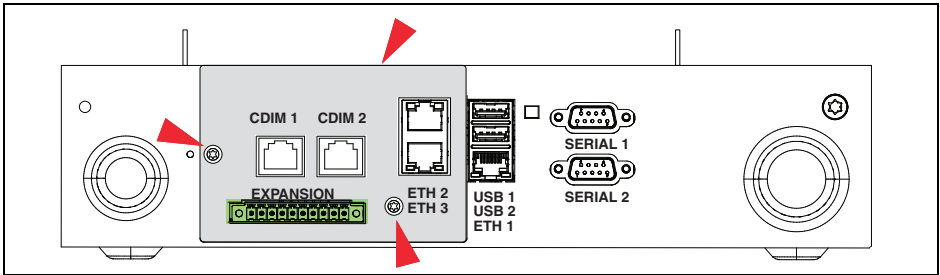

Figure 9. Remove Two T15 Screws Securing Comm Plate
4. Remove the two T15 #8 x 0.3125 screws securing the expansion comm port plate to the bottom of the console enclosure and set them aside with the comm plate. (see Figure 9).